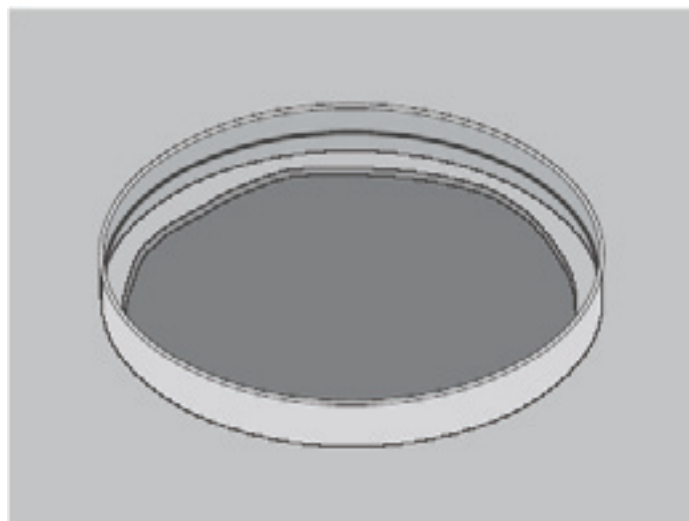

Fig. 29: The rim form
6. Construct the form for the tank rim. This form should be ring shaped, with an outer diameter of at least 60 cm and a height equal to 5 cm plus the estimated thickness of the tank's roof. Once the first layer of mortar has been applied (step 4), center the form over the tank opening (figures 29 and 30).